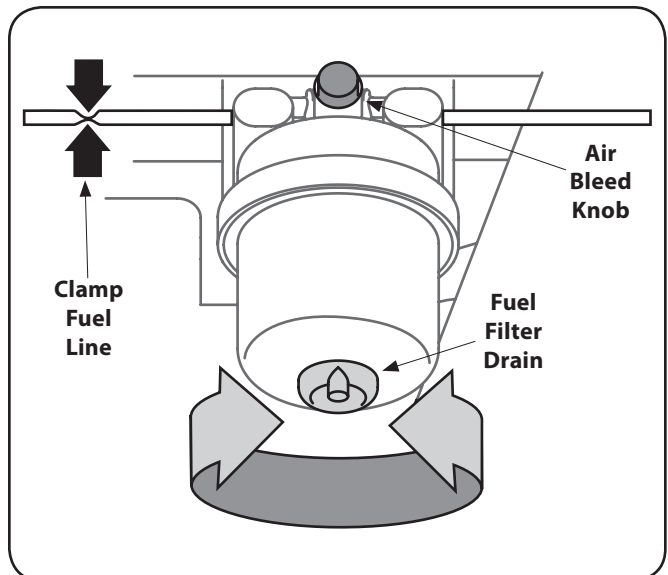

Figure 6-4
3. Turn the filter drain counterclockwise to open. Allow the water at the bottom of the filter to drain until only pure diesel fuel drains from the valve. See Fig. 6-4.
5. Slowly turn the air bleed knob counterclockwise until fuel begins to seep out around the bleed knob. Turn air bleed knob clockwise to close. Refer to Fig. 6-4.
2. Clamp the fuel line just to the rear of the fuel filter. See Fig. 6-4.